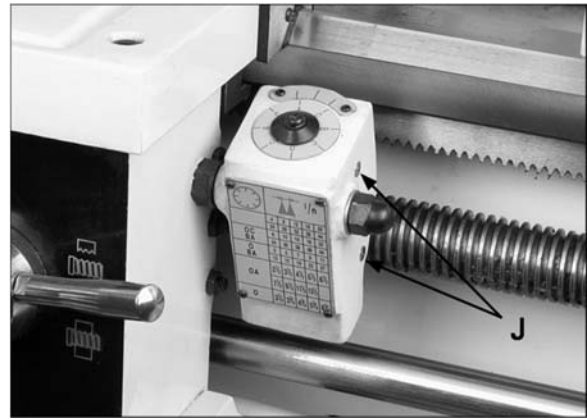

Figure 13
All ball oilers must be lubricated with SAE-20W oil (Mobil DTE® Oil Heavy Medium), as follows. Refer to Figures 13 and 14.
7. **Threading Dial** – Daily lubricate two ball oilers (J, Figure 13).